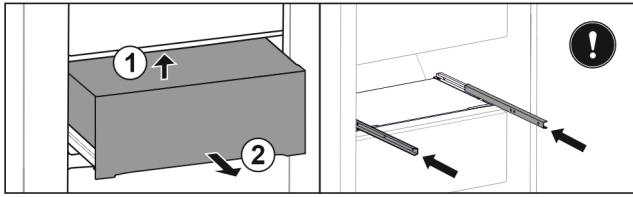

Fig. 99
- ▶ Lift drawer from below. *Fig. 99 (1)*
- ▶ Remove drawer to the front. *Fig. 99 (2)*